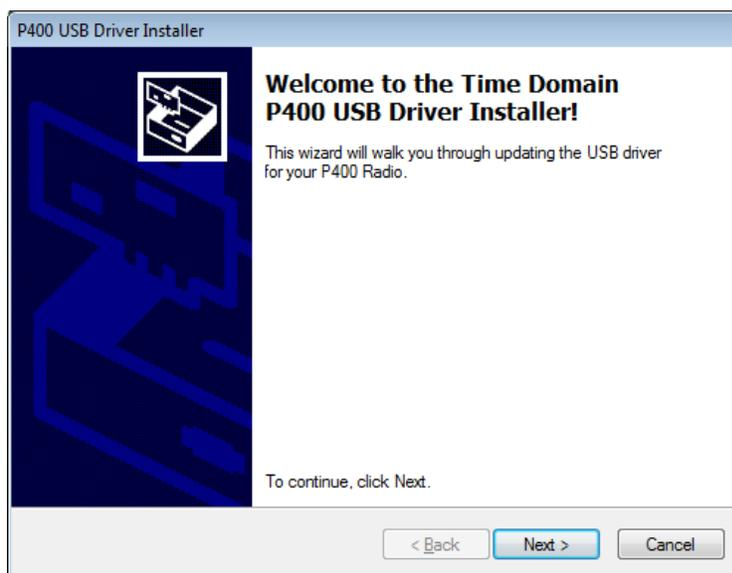

Fig. 4: USB driver installation screen
8. During the MRM RET installation process, the USB drivers will be loaded. This process starts when the screen shown in **Figure 4** appears.